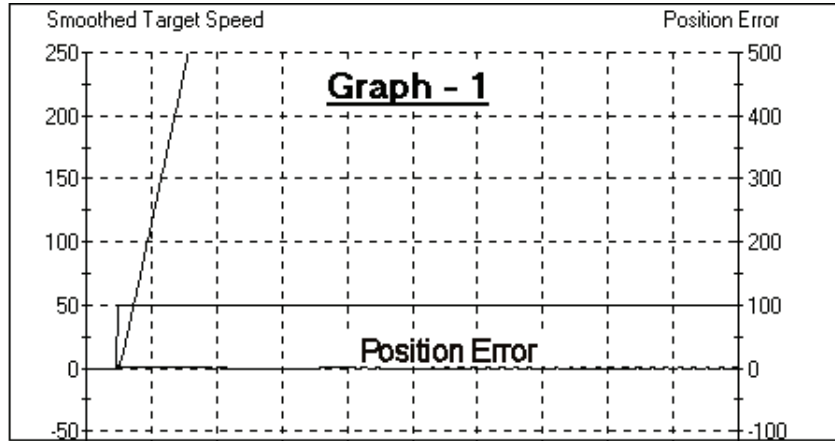

Figure 23: Sample Chart of Position Error
15. Study the graph, particularly the Position Error (Figure 23), shown by default in yellow, and decide whether the control coefficients are set appropriately.